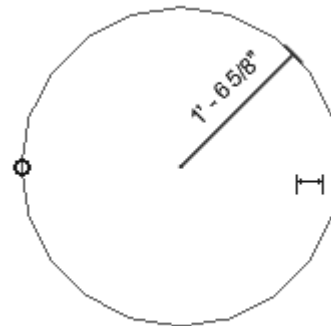

FIGURE 3-1.18 Circle selected
43. **Select the circle** and notice a temporary dimension appears indicating the circle’s radius. Press **Esc** to unselect it (Figure 3-1.18).